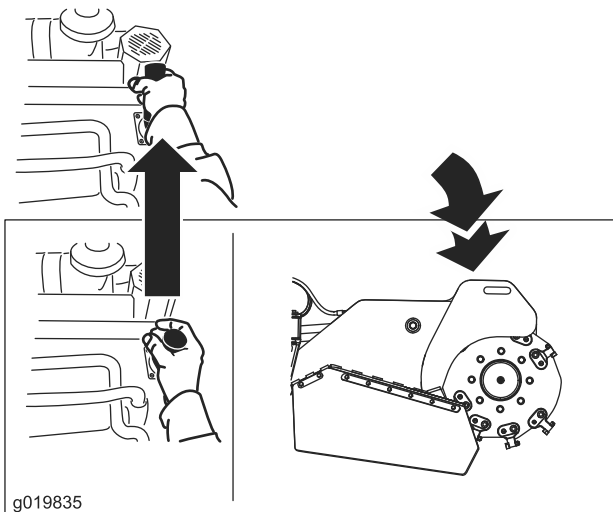

Figure 15
- To lower the grinder, push the lever forward (Figure 15).